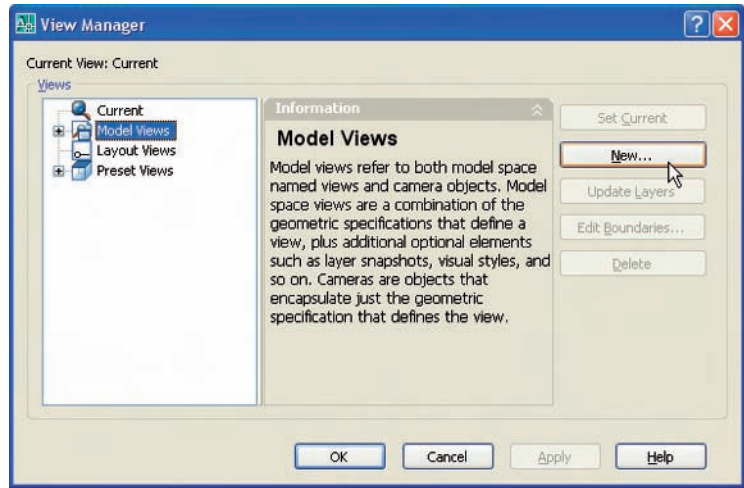

Fig. 16.8 The **View Manager** dialog
2. The **View Manager** dialog appears (Fig. 16.8). *Click Model Views* in the **Views** list, followed by a *click* on the **New . . .** button.